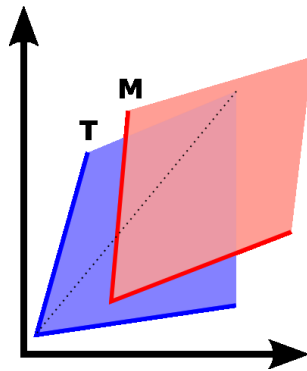

Figure B.1: Target outside monitor
- (a) Target gamut outside monitor gamut (Figure B.1).